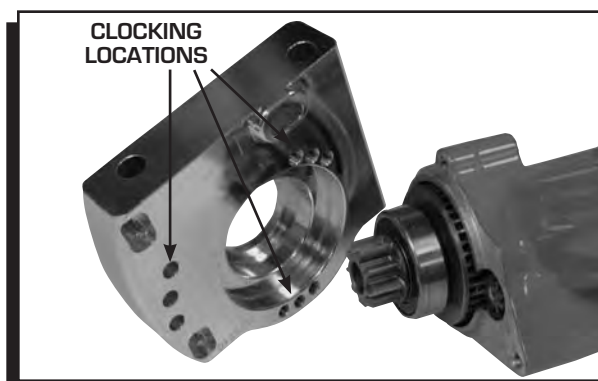

Figure 1 Clocking the Starter for Clearance.
3. Check that the position of the solenoid is away from direct heat sources and other components. If there are clearance problems, the starter housing can be rotated to move the location of the solenoid. This is done by removing the three bolts on the mounting block and repositioning the starter motor (Figure 1).